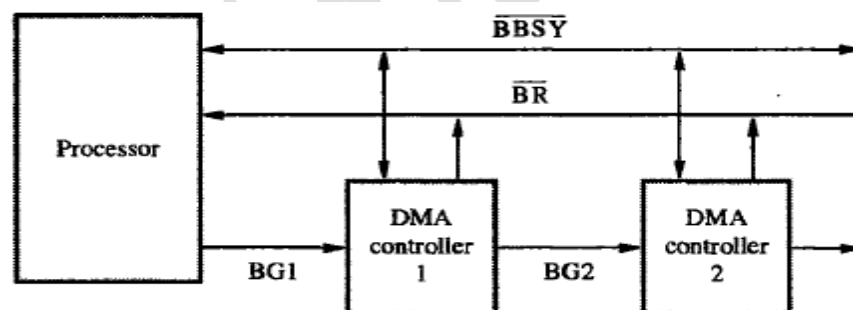

Figure 4.20 A simple arrangement for bus arbitration using a daisy chain.
- A single bus-arbiter performs the required arbitration (Figure: 4.20).